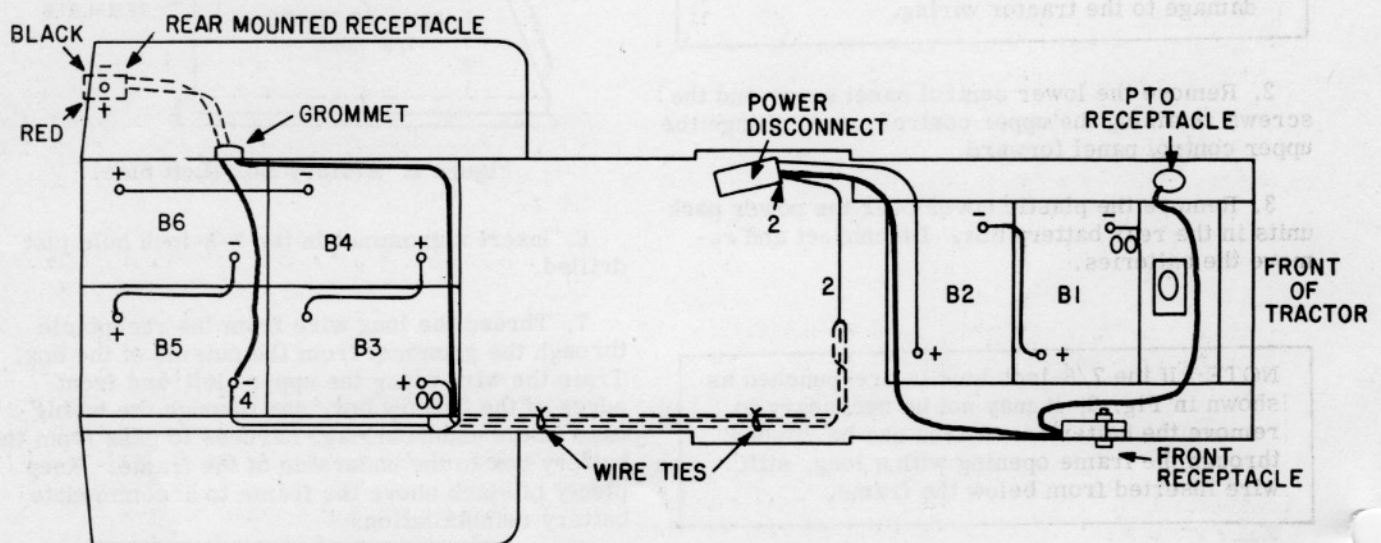

Figure 4. Wiring Layout (Top View)
10. Replace the batteries following the layout in Fig. 4. **DO NOT RECONNECT THE BATTERIES AT THIS TIME!**
12. Reconnect the batteries as shown in Fig. 4, connecting the short receptacle wire to the clamp on the negative post of battery B5.
10. Dress the short receptacle wire along the top surface of the perforated charger cover. See Fig. 4.